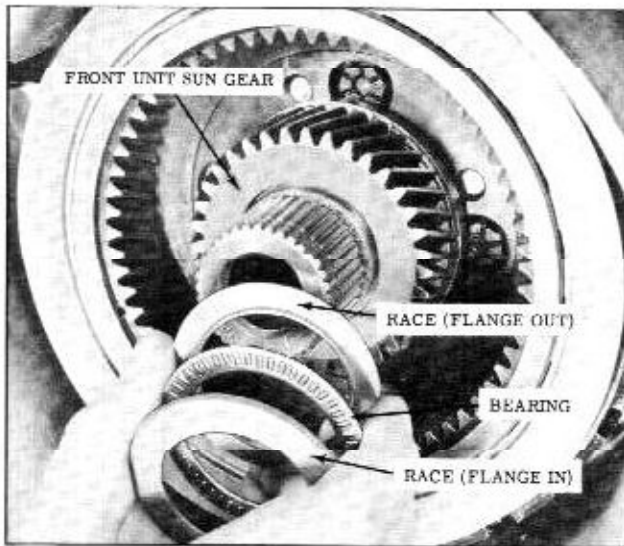

Fig. 3-108 Installing Bearing and Races
20. Install thrust bearing and races as shown and retain with petrolatum. (Fig. 3-108)